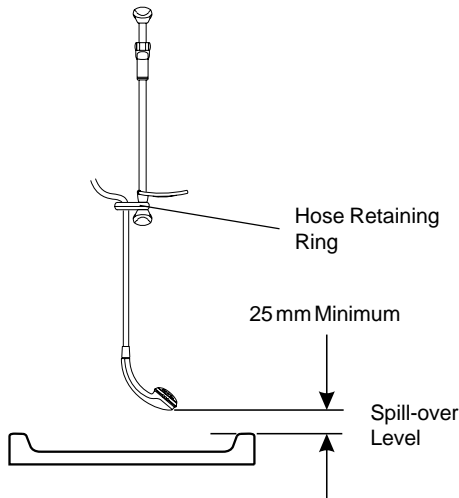

Figure 1
- 1.13. To comply with Regulations/Bye-laws which refer to shower hose connections, a hose retaining ring is supplied to prevent the handset from dropping below the spillover level of the bath or shower, which could lead to contamination from back-siphonage (refer to Figure 1). The supplied hose retaining ring should meet the great majority of user requirements for shower installations with flexible outlet fittings. However, there will be occasions when the hose retaining ring will not provide a suitable solution. In these instances an **outlet** double checkvalve, e.g. the Mira DCV-H, **must** be fitted. The inclusion of the Mira DCV-H will increase the required supply pressure typically by 0.1 bar.
- 1.1. Decide on a suitable position for the Mira Sprint (minimum distance of 200 mm from the ceiling to allow for cover fit and removal). The position of the Mira Sprint and the shower fittings must provide a minimum gap of 25 mm between the spill-over level of the shower tray/bath and the handset. This is to prevent backsiphonage (refer to Figure 1, Section 7).